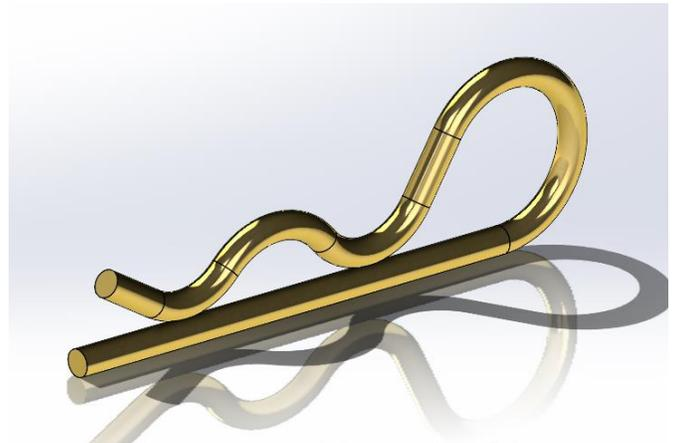

Figure 2. Hairpin Clip
- If a hairpin clip is already installed, no action is required. (See Figure 2 & 9)